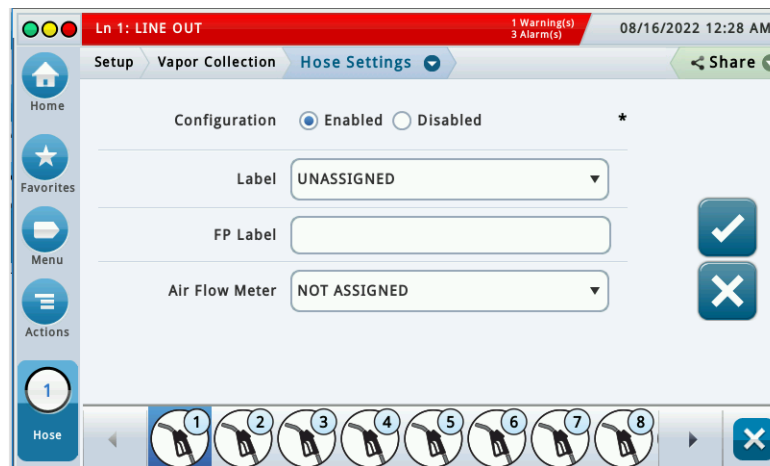

Figure 16. Vapor Collection Hose Settings Setup
2. Set Configuration radio button to Enabled (see Figure 16).